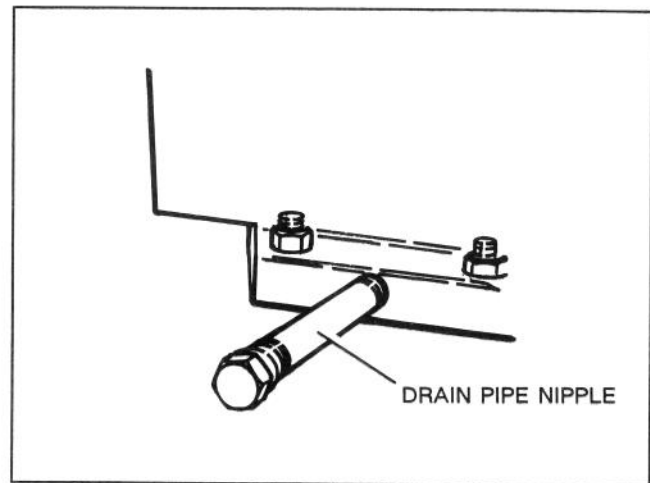

Figure 2
3. After oil is drained, remove drain pipe nipple from engine (Fig.2).